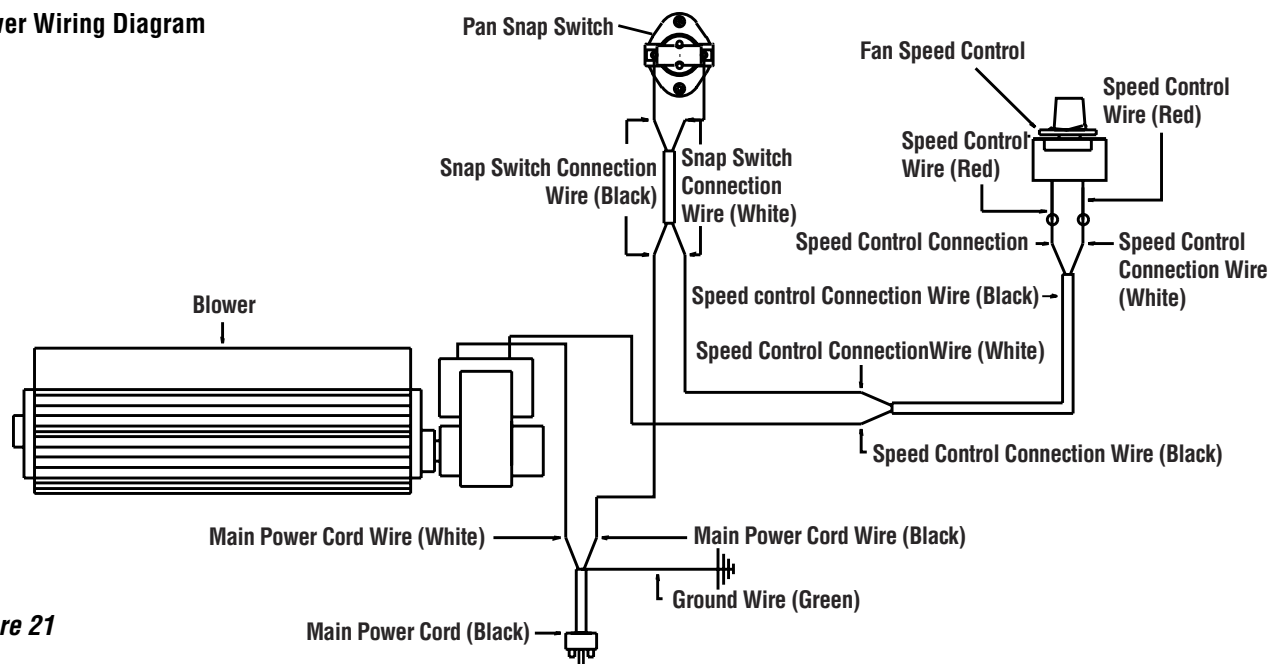

Figure 21
- See Blower Wiring Diagram (*Figure 21*) for information on the wiring and electrical requirements for the blower.